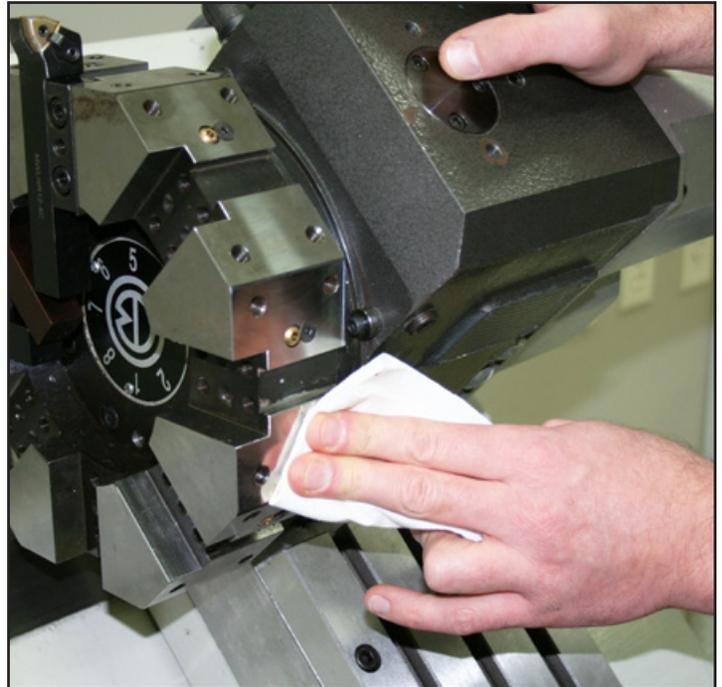

Figure 32
4. Inspect surfaces of both turret and Boring Bar Holder; remove burrs, wipe off grit and dirt (see **Figure 32**). If necessary, use hand-held stone to deburr surface. Spray surfaces with a rust preventative such as WD-40®.
16. Inspect surfaces of both turret and OD Turning/Facing Tool Holder; remove burrs, wipe off grit and dirt (see **Figure 32**). If necessary, use hand-held stone to deburr surface. Spray surfaces with rust preventative such as WD40®.